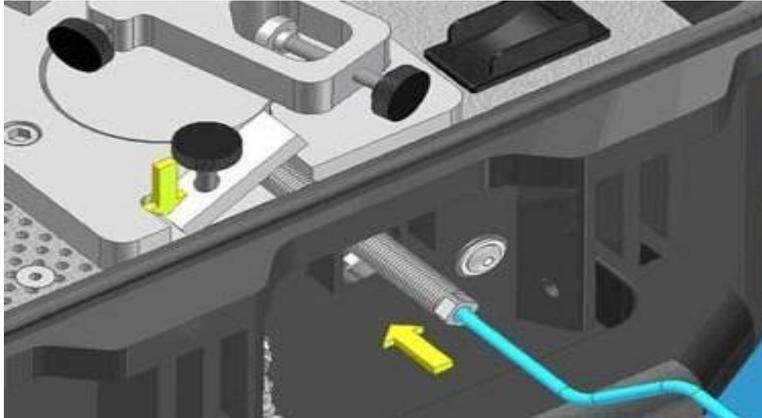
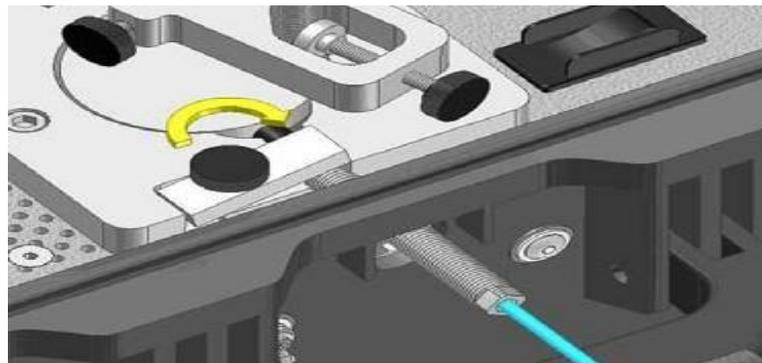

Figure 2-12: Insert the Probe
Figure 2-13: Tighten the Thumbscrew
8. Insert the Keyphasor probe to the appropriate gap position, per section 4.6 (Figure 2-12), and tighten the thumbscrew (Figure 2-13).